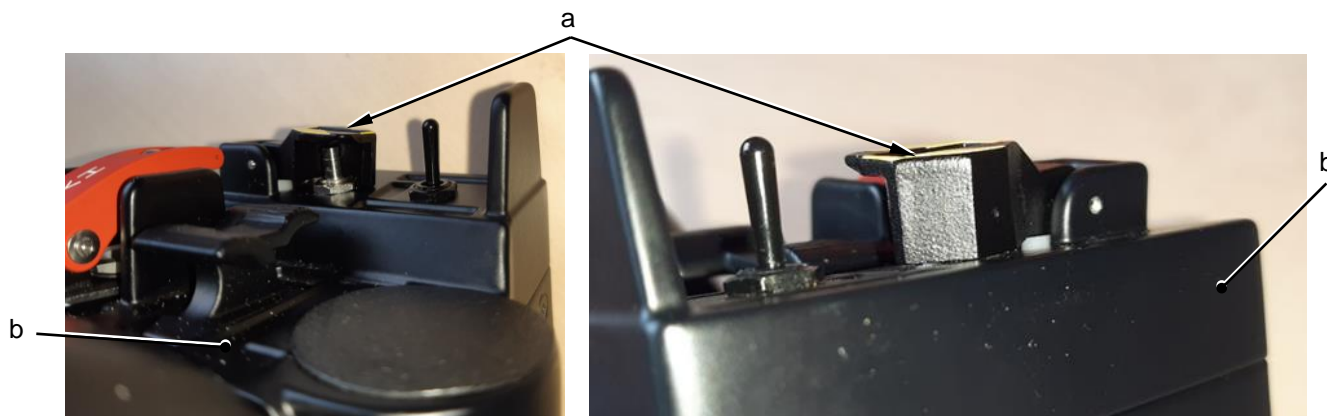

Figure 4 - Fully close position of the safety-cap
- Make sure that the safety-cap (a) on the collective pitch handle (b) is in the fully closed position, refer to Figure 4.
- Make sure that the safety-cap (a) is fully closed (Figure 4)